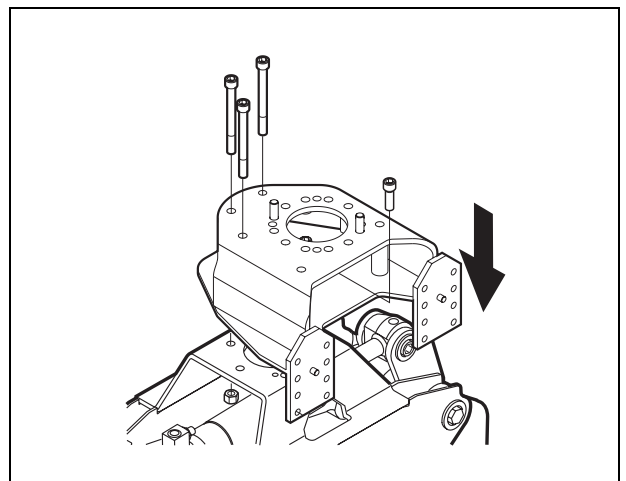

Fig. 16 Assemble the rotator bracket to the grapple
3. Assemble the rotator bracket to the grapple. *See Fig. 16.*